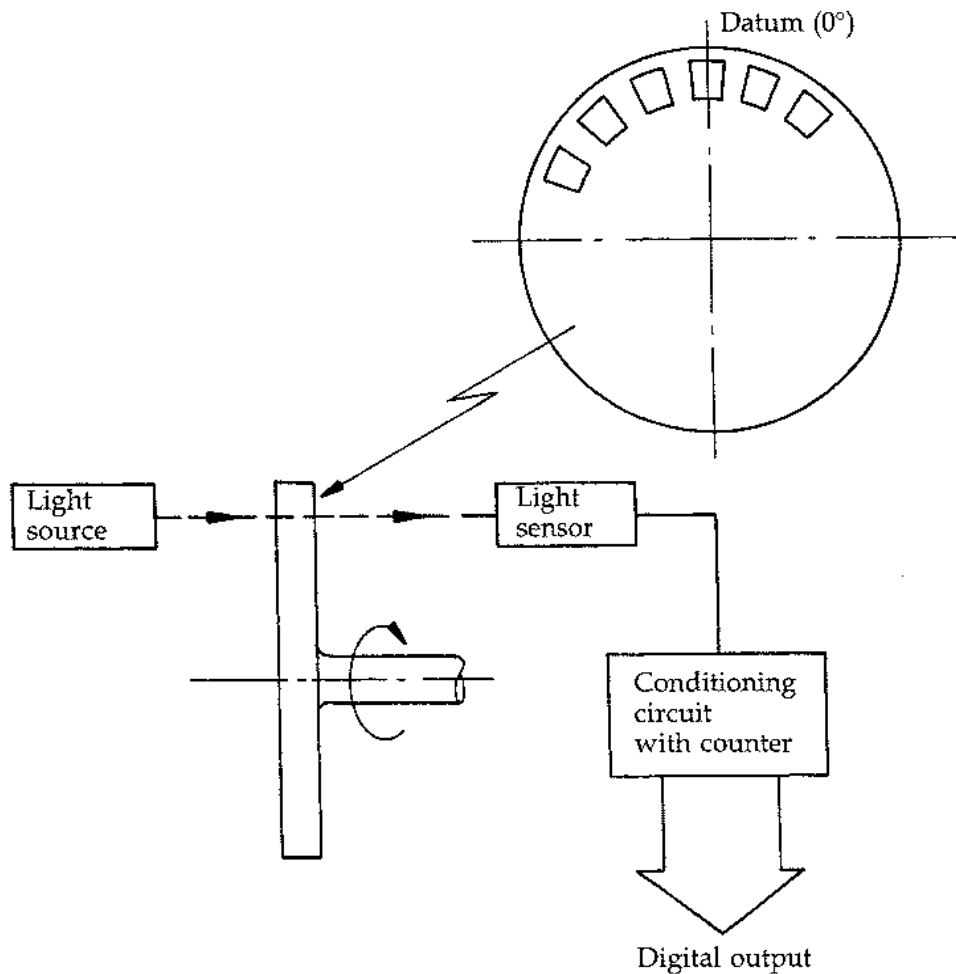

Figure Q8
- (5)
8. Figure Q8 illustrates an optical rotary incremental encoder with 1000 evenly spaced transparent slots around the periphery of the disk.